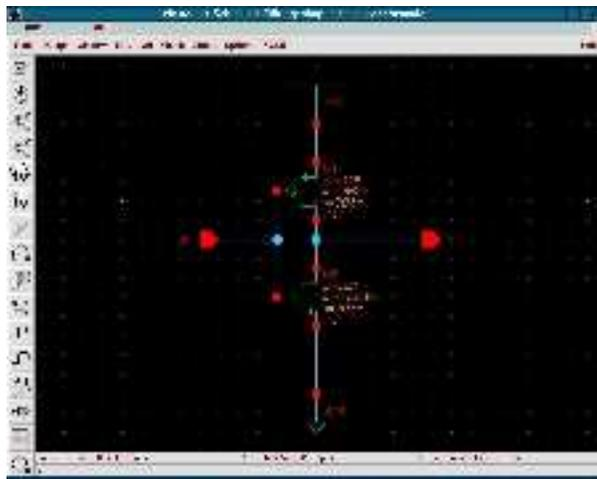

Figure 1: Finished transistor-level schematic of an inverter.
4. We now start with creating the schematic of a simple inverter. When finished, the schematic should look similar to the one shown in Figure 1. Click on the simple\_cells library then go to File->New->Cellview. In the window that pops up, type in “inv” (without the quotes. Also, the name is again arbitrary) in the Cell Name field. For the View Name field, you can either directly type “schematic” to inform cadence what type of design you’re making, or choose “Composer - Schematic” in the Tool options menu. Click on OK. A window titled Virtuoso Schematic Editing will now open. This is the Cadence program that we will be using whenever we want to design circuits on a schematic level.